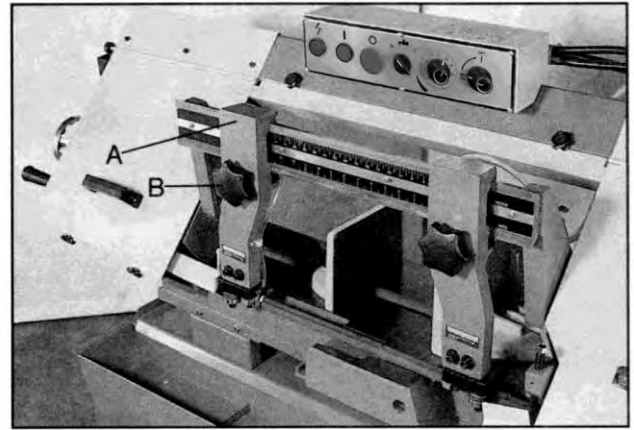

Fig. 7
The blade guides should be set as close to the vise jaws as possible. The right blade guide bracket, is not adjustable and is set at the factory to clear the right hand vise jaw. The left blade guide bracket can be moved to the left or right depending on the size of the workpiece. To move the left blade guide bracket (A) Fig.7, loosen the knob (B), position blade guide bracket and tighten knob (B).